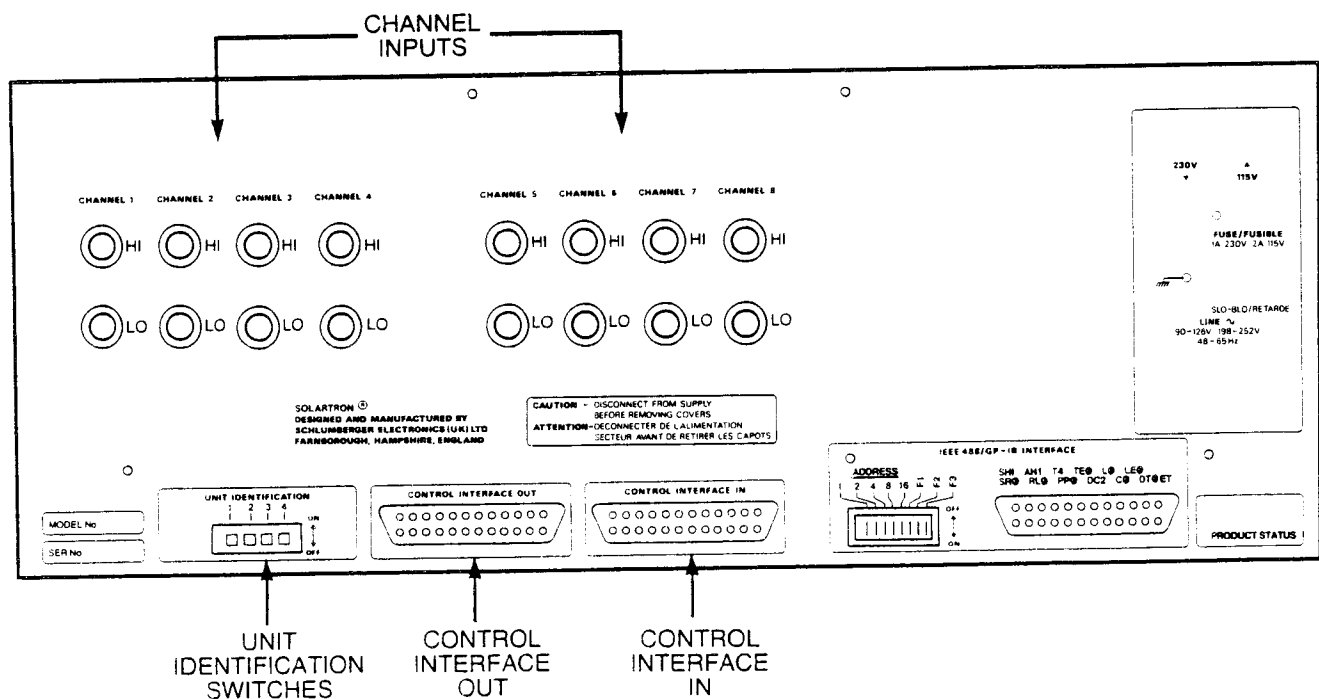

Fig. 16.2 1251 Rear panel
2. Plug the other end of the ribbon cable into the first of the 1251 Units, via the connector labelled **Control Interface In** mounted on the rear panel of each 1251 Unit, as shown in Fig. 16.2.
There is a set of four switches (numbered 1 to 4) on the rear panel of each 1251 Unit, labelled **Unit Identification**, as shown in Fig. 16.2. Each 1251 Unit must have one of the four switches, and one only, in the ON (up) position. The number of the switch selected becomes the **Unit number**; this number must be different for each 1251 Unit, to enable the 1254 to distinguish between Units in the 1254-1251 Interface Bus and route data correctly to and from them.